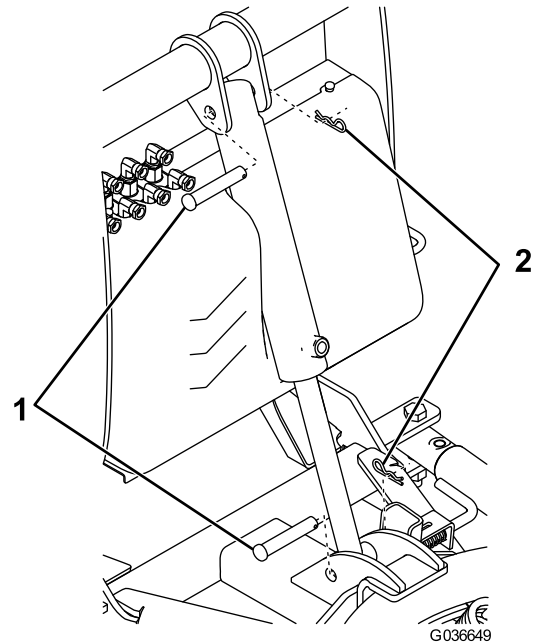

Figure 6
6. Secure the rod end of the lift cylinder to the push-frame assembly using a clevis pin (5/8 inch) and hairpin cotter (Figure 6).
7. Secure the free end of the lift cylinder to the coupler tower using a clevis pin and hairpin cotter (Figure 6).